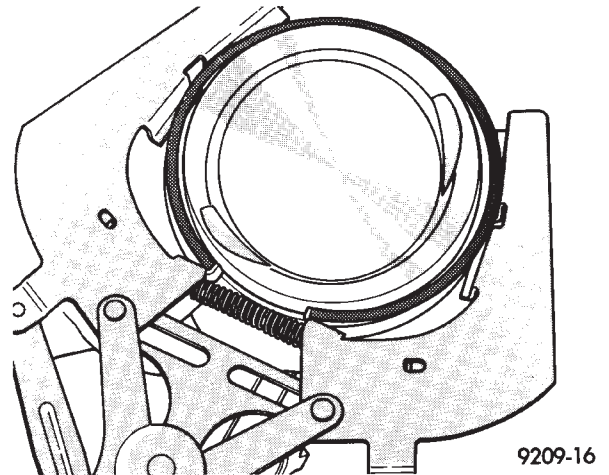

Fig. 89 Piston Ring—Removal
(4) Remove piston rings (Fig. 89).